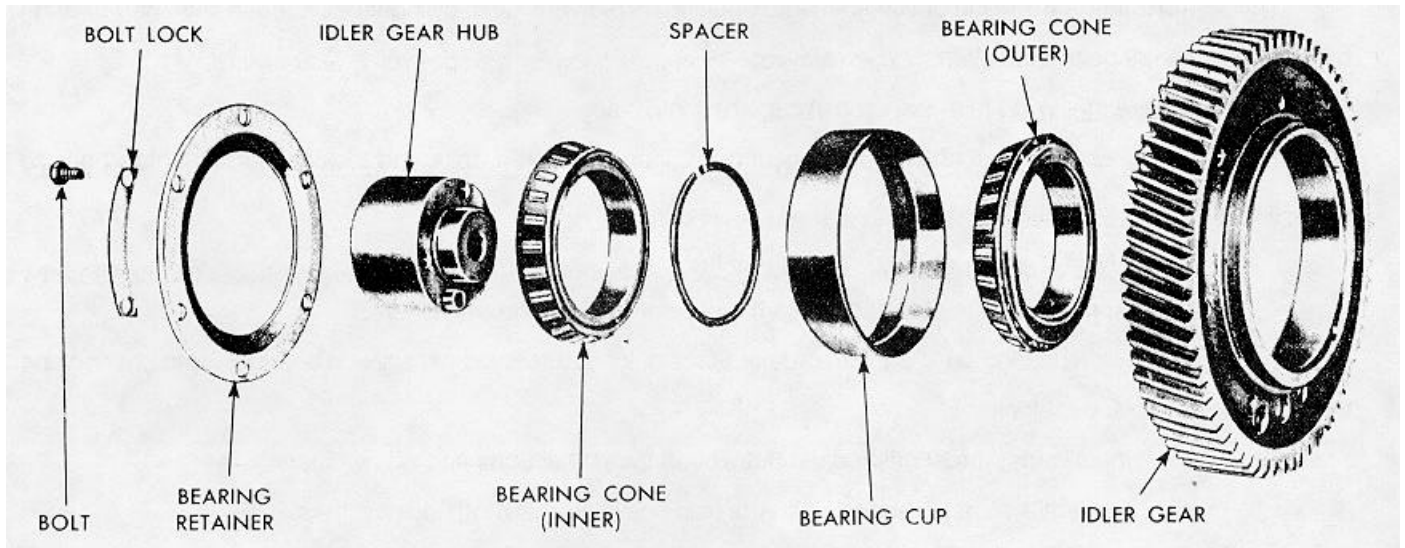

Figure 6-26. Idler Gear Assembly.
- d. Refer to Figure 6-26 and remove idler gear as follows:
- (1) Remove idler gear outer thrust washer from hub.
- (2) Slide idler gear straight off hub.
- (3) Remove bolt which secures idler gear hub to block.
- (4) Remove idler gear hub and inner thrust washer as an assembly.